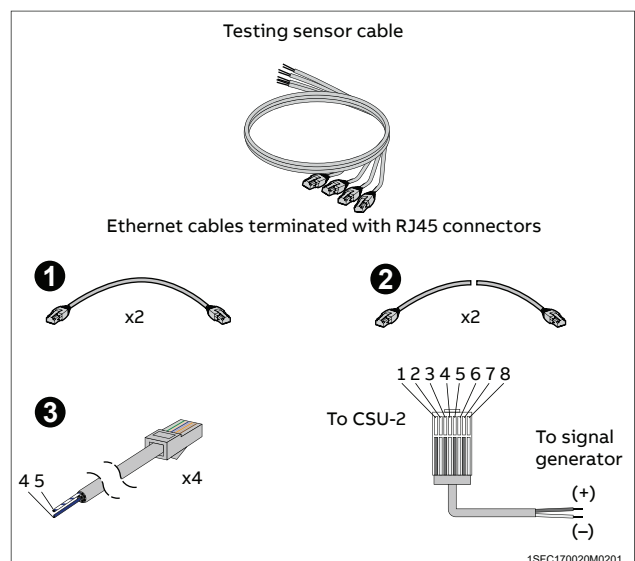

Figure 15
1. Prepare 4x shielded cables terminated with RJ45 connectors. See **Figure 15**.
3. For each testing the testing sensor cable, wire 5 should go to plus (+) on the tester. Wire 4 should go to common (-/GND) on the tester. Wire 1, 2, 3, 6, 7 and 8 should not be connected to any. See **Figure 15**.